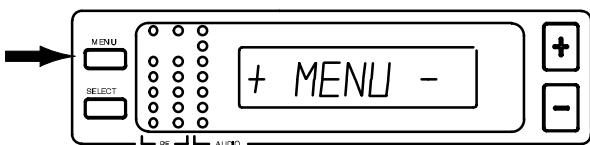

FIGURE 16
1. Press the MENU button. The “+ MENU –” display appears, as shown in Figure 16.